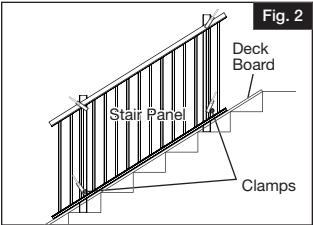

Fig. 2
- c. From marked lines, mark additional parallel line $\frac{1}{4}$ " from first line to allow for bracket clearance (Fig. 2).
- Place bottom rail across post opening leaving equivalent spacing from last glass opening to post on each end. Make sure there is even spacing from glass hole to post (Fig. 2)
Place a deck board on the stair noses spanning from post to post. Place the stair panel on the board across the opening and plumb balusters while ensuring equal spacing on each end. Clamp the panel in place at this location (Fig. 2).
- Align top and bottom bracket bases with covers attached (Fig. 2) with the holes ensuring that they are square. Fasten bracket bases in place using the non-painted flat head $1\frac{1}{2}$ " screws provided.